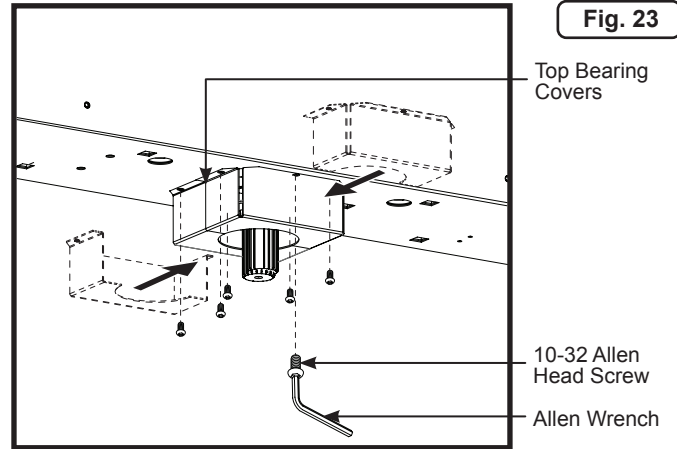

Fig. 23
2. Using an Allen wrench, Insert and tighten the six 10-32 x 1/2" Allen head mounting screws (Figure 23).